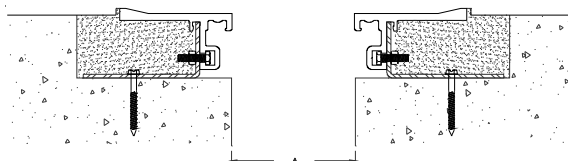

Figure 5
**STEP 9.** Fill the breakout with non-shrink grout (not supplied by Balco, Inc.). The grout must be level with the top of the slab (see Figure 5). Remove any excess grout from the exposed surfaces of the expansion joint cover system before the grout cures.